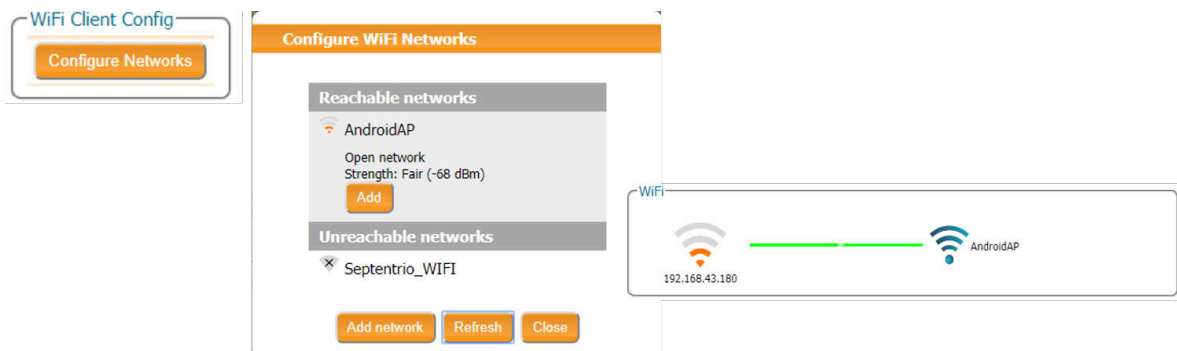

Figure D-2: Connect to WiFi network
2. Click on **Configure Networks** in the WiFi Client Config panel. This will display a list of reachable WiFi networks. From the list of networks, select to connect to the mobile device by clicking **Add**. Confirm by **OK** as shown in Figure D-2.